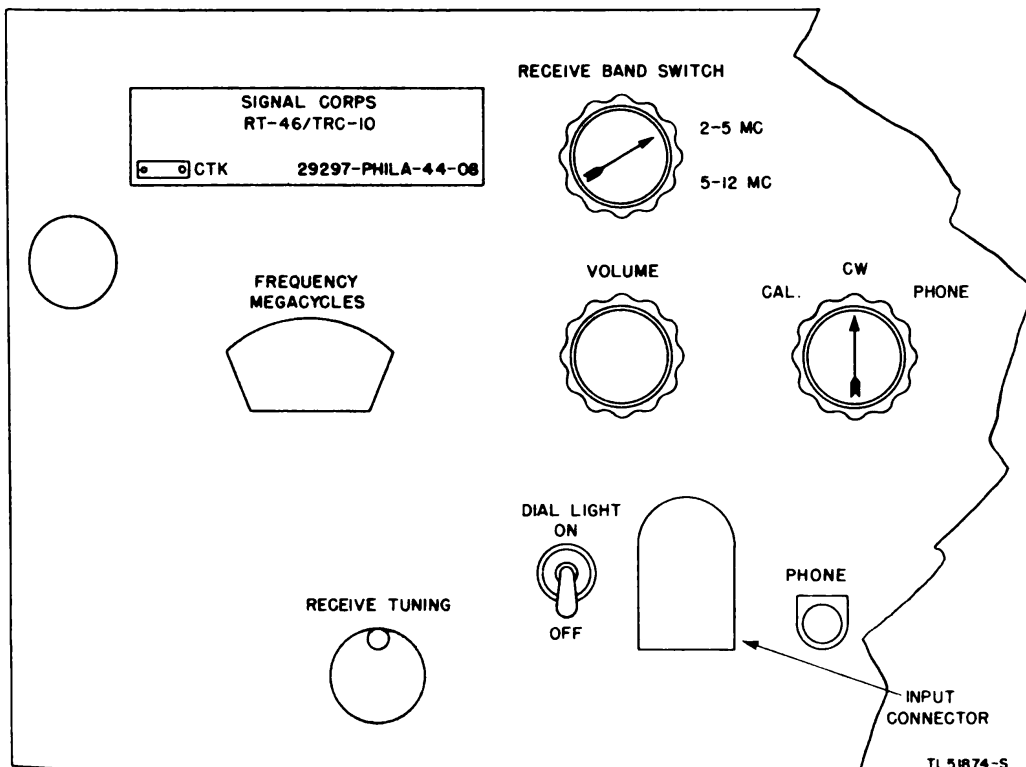

Figure 16. Receiver section, identification of controls.
17. RECEIVER SECTION (fig. 16).